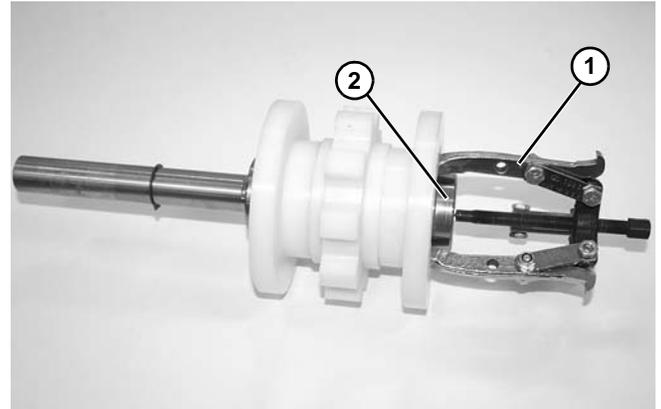

Figure 56
10. Using puller (Figure 56, item 1), as shown, remove bearing (Figure 56, item 2) from shaft assembly. Repeat on opposite side, if needed.